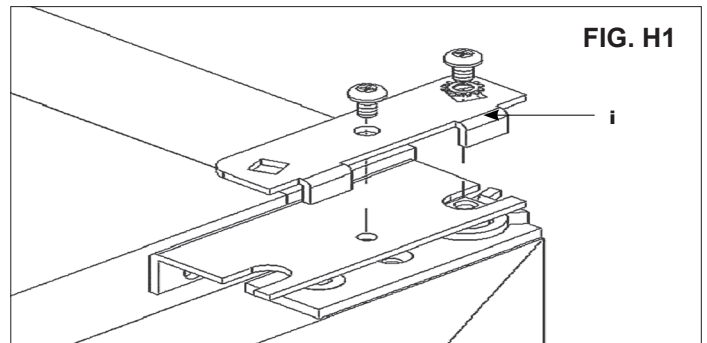

FIG. H1
2. Door closed remove hinge tensioning bracket (Fig H1i) and save two top retaining screws and one star washer (See Fig H1). Note: Though door gasket magnet will hold door in place, ensure unfastened door is secured from disengaging from cabinet.